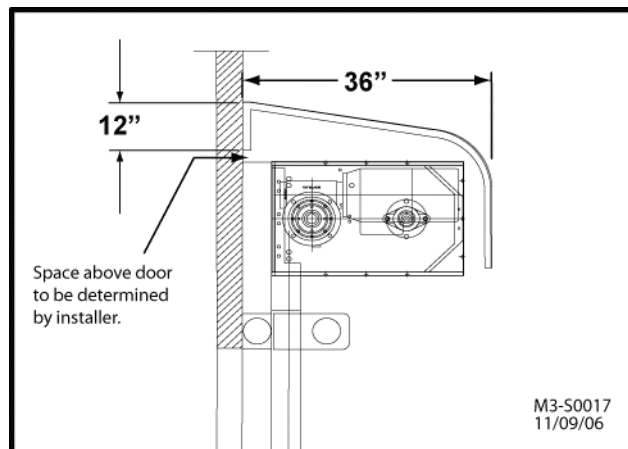

Figure A-2: Mounting Area
2. Anchor frame securely to structure above door. Mounting placement is determined by the installer. See Figure A-2.